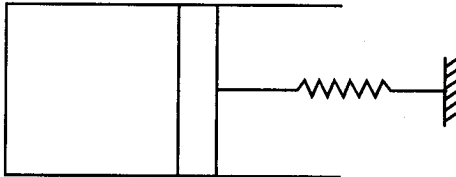

Figure 1
- (b) A piston-cylinder device as shown in Figure 1 contains a gas at 200 kPa and 0.0015 m^3 . At this initial state, the spring does not exert any force on the piston. Now the gas is heated to double its volume. The pressure at this state is 600 kPa. Draw the P - V diagram for the process. Also calculate the work done by the gas. 10